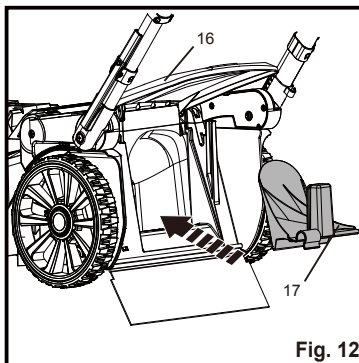
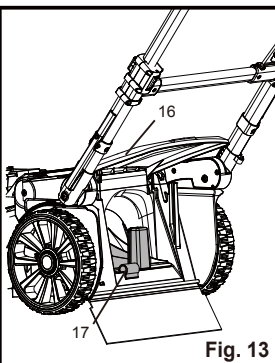

Fig. 12
Fig. 13
- Lift the safety flap (16) and detach the grass collection bag.
- Open the safety flap (16), hold it in position and insert the mulching plug into the rear discharge chute (Fig. 12). Ensure the locking button snaps into place, as picture shown (Fig. 13).